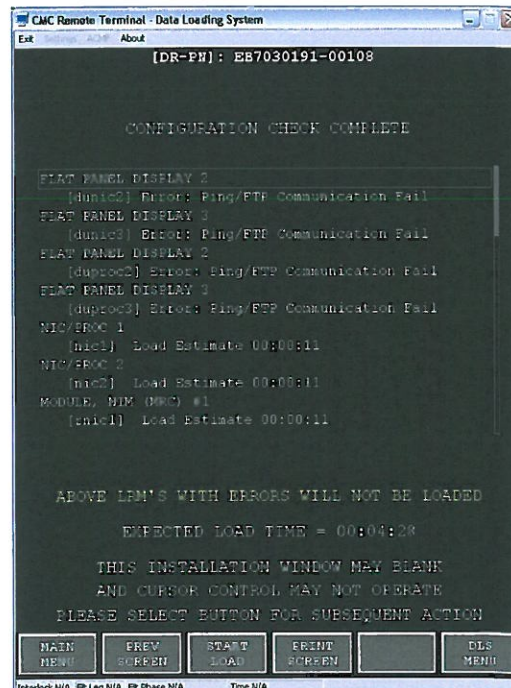

Figure 8: Configuration check complete with failure reporting
- On completion of the configuration checks, the estimated load time, along with the computed error codes, will be displayed in the Configuration Check Complete page (see Figure 8).